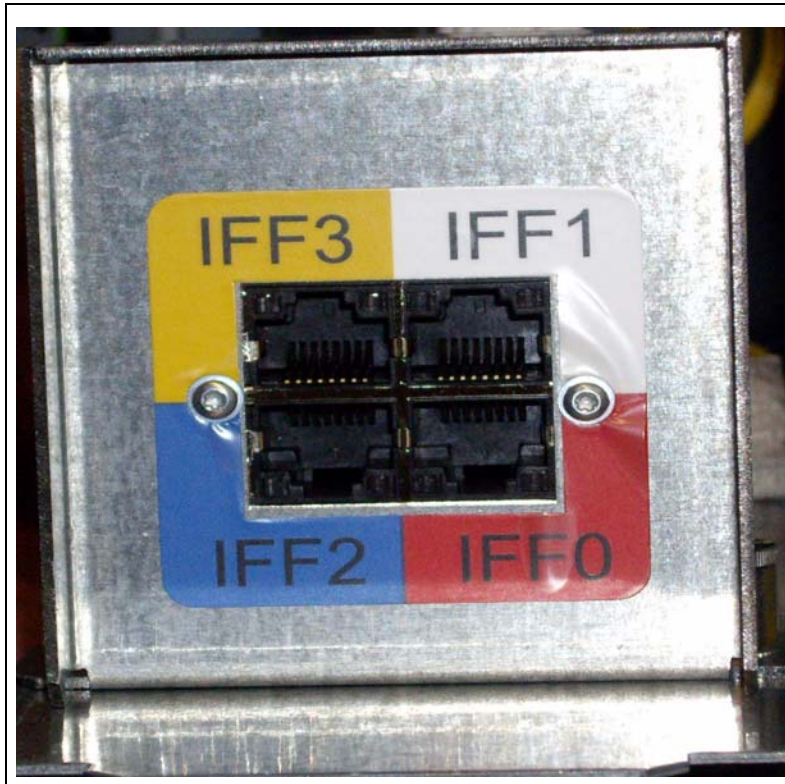

FIGURE 5-4 IFF3 Ethernet Port for Connection to TCP/IP Network
4. Ensure that the VTSS is connected with Ethernet cable to the TCP/IP network via the IFF3 port at the bottom of the frame as shown in FIGURE 5-4.